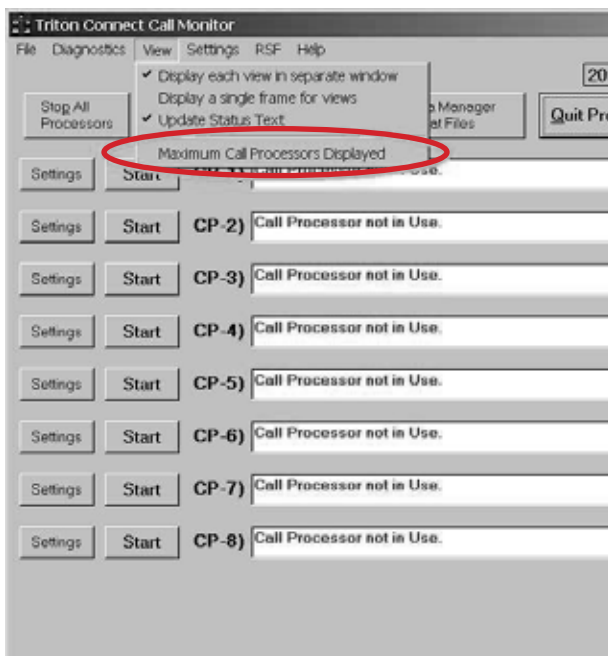
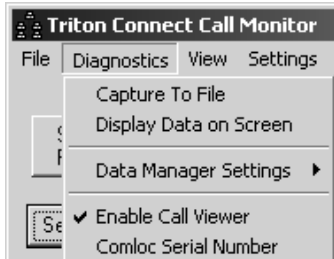

Figure 1-17
Figure 1-18
A new option named Maximum Call Processors to Display has been added to the View menu in the Call Monitor application as shown in figure 1-17.
1. From the Call Monitor main menu select the Maximum Call Processors to Display option from the View menu, as shown in Figure 1-17. The Maximum CPs to Display dialog is displayed, as shown in Figure 1-18.